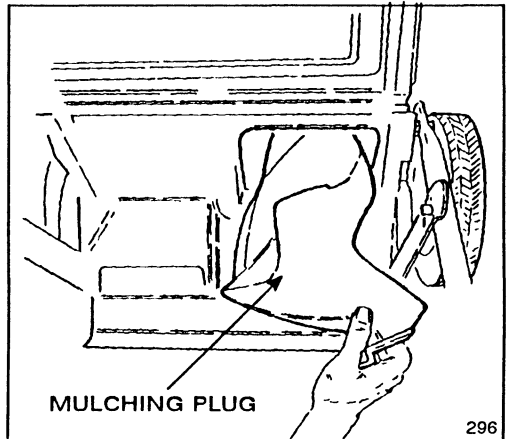

Figure 36
4. Mulching Plug Kit, Model No. 59172—Includes mulching plug (Fig. 36), mulching blade, blade stiffener and anti-scalp cup. Converts rear bagging mower into a mulching mower.